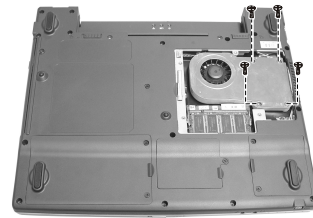

Figure 2-7 Remove four screws
3. Remove four spring screws that secure the heatsink upon the CPU. (Figure 2-7)